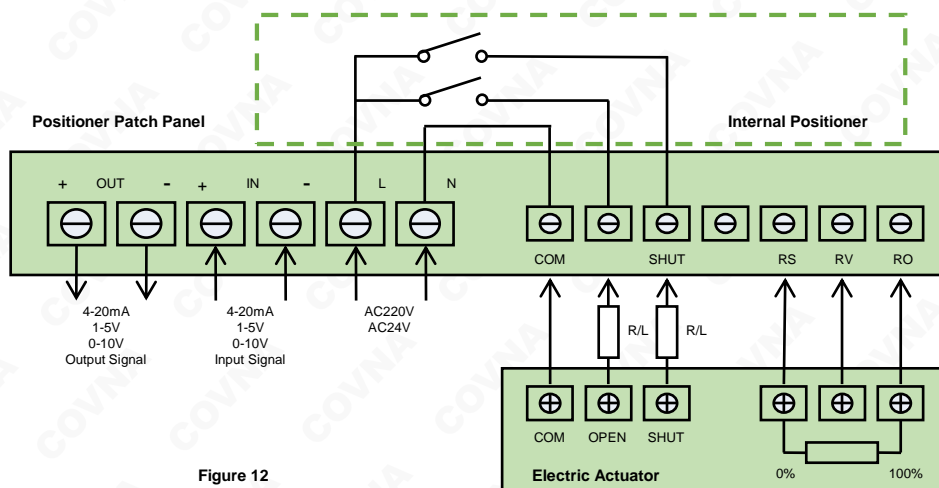

Figure 12
■ Electrical wiring of the servo control module (Figure 12)
After wiring between valve positioner and actuator like Figure 12, the rotation angle has to be calibrated in the first match between positioner and actuator, after that the positioner could work correctly, the demarcation has no effect on input and output of valve positioner.